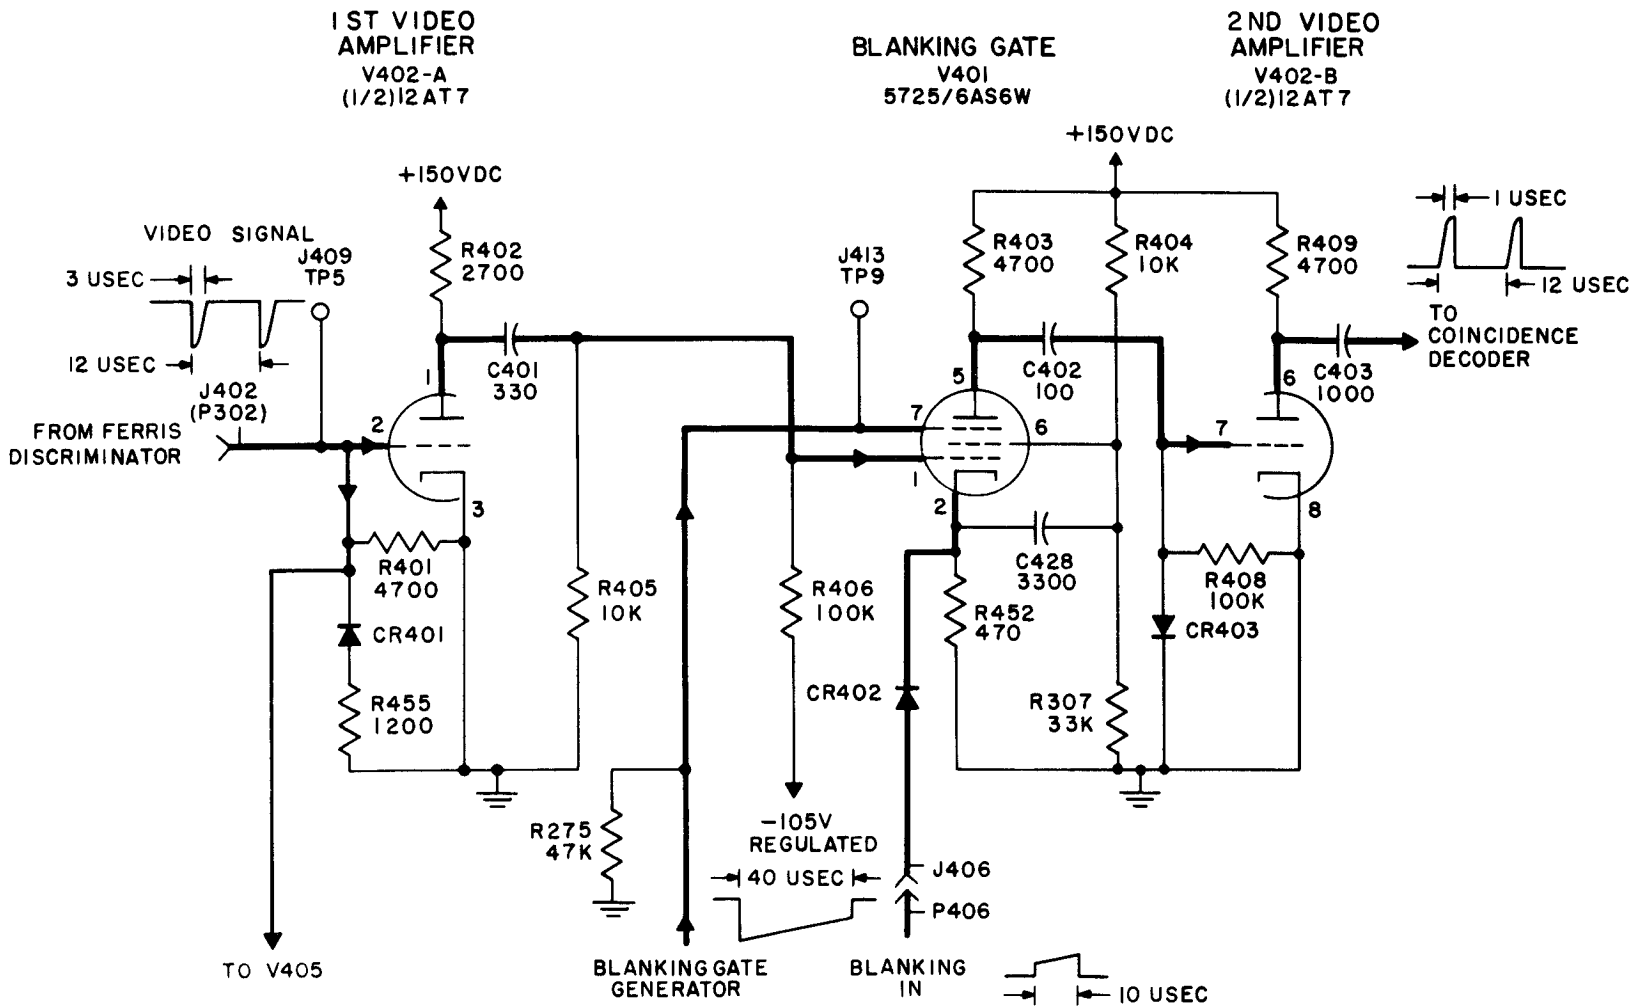

Figure 4-18. Radio Receiver R-824/URN, Video Amplifier, Simplified Schematic Diagram
(d) VIDEO AMPLIFIERS. —The video signal and noise pulses from the i-f amplifier chassis are routed through jack J402 to the control grid (2) of the first video amplifier V402A (figure 4-18). The video